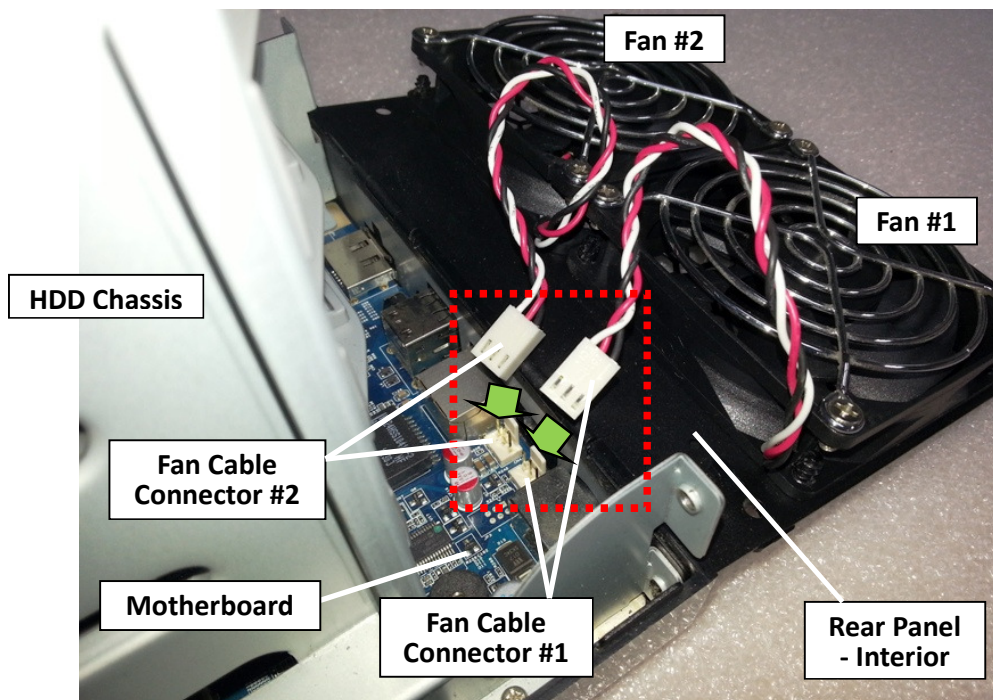

Fig. 82
3.2.10 Plug back the two (2) fan cable connectors (Marked by the red rectangle). (Fig. 82)